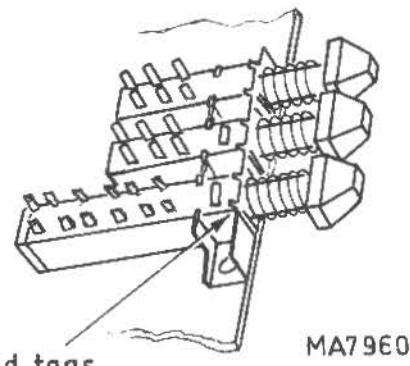

Fig. VIII-1. Removing push-button switches
2. Slightly bend 4 tags securing switch to rail (Fig. VIII-1).